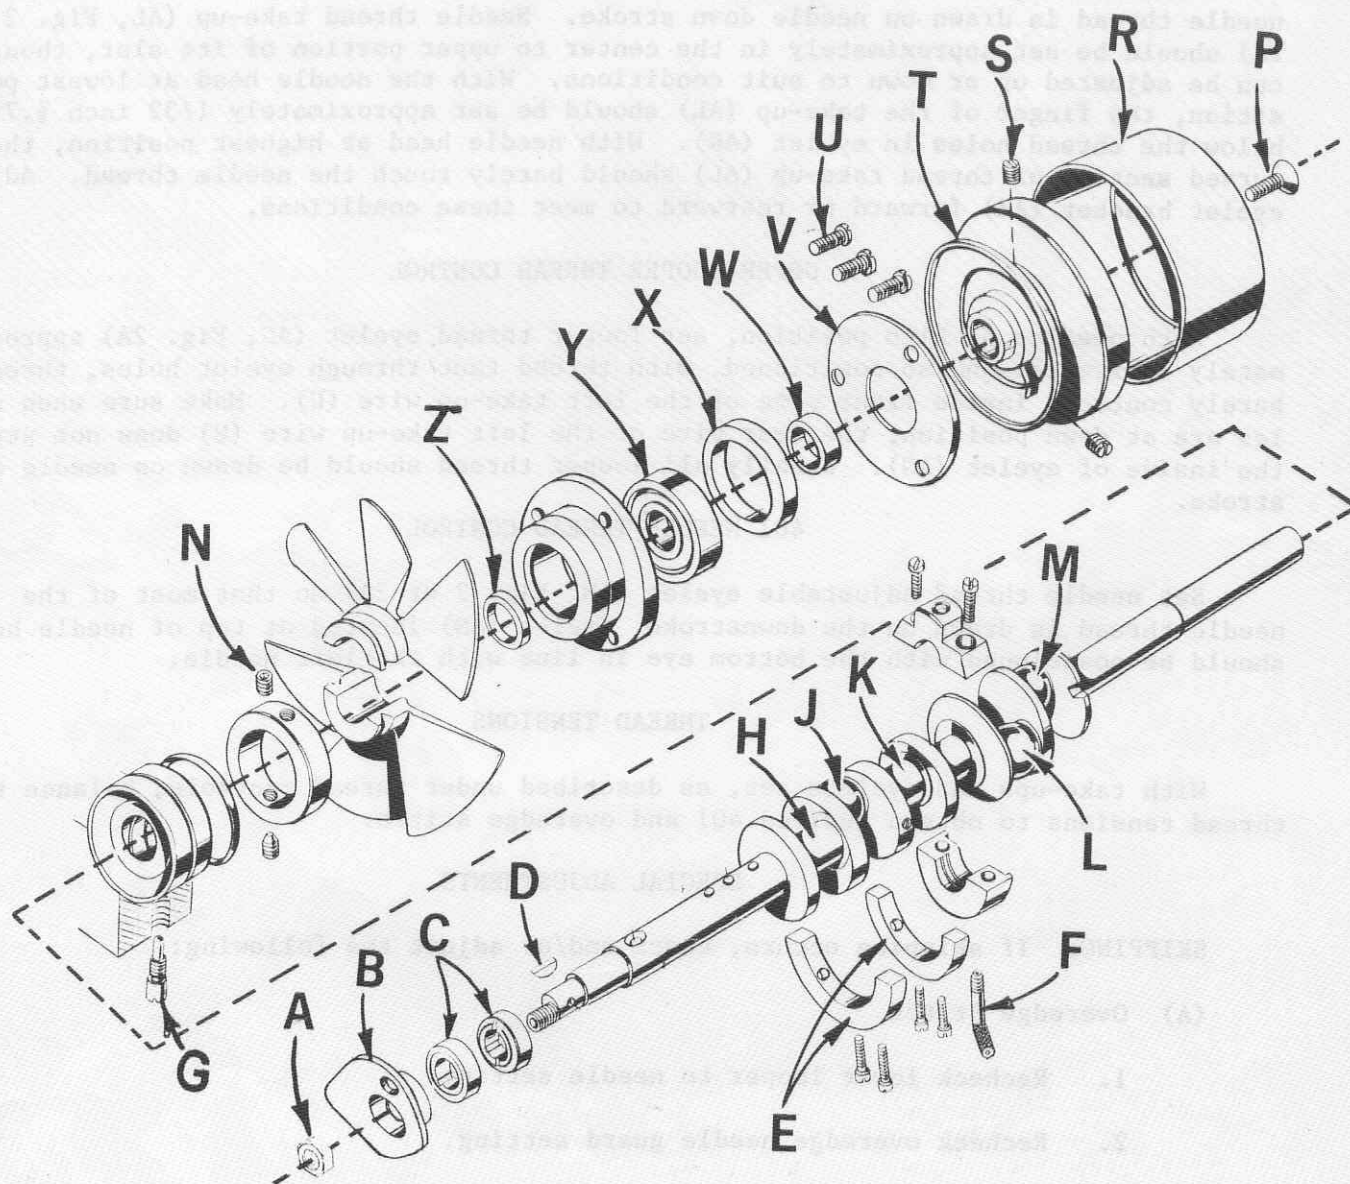
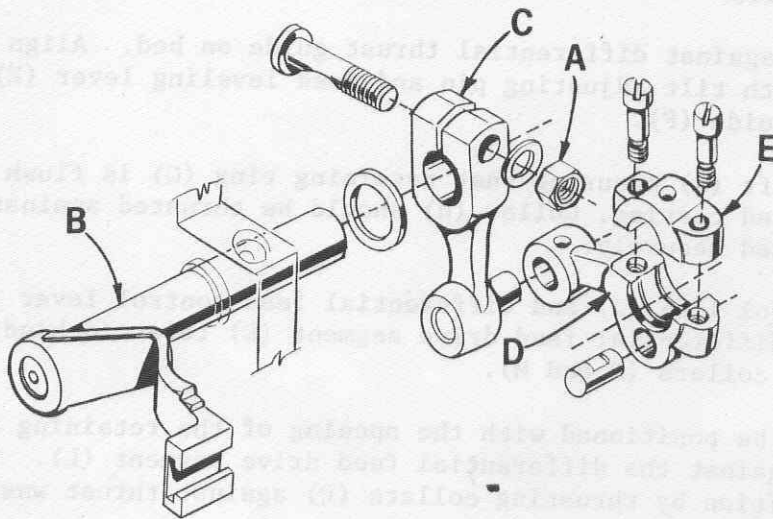

Fig. 20
Fig. 21
3. Remove nut (A, Fig. 20), 401 looper thread take-up (B) and eccentrics (C).
4. Remove key (D).
5. Remove two counterweights (E). Identify these counterweights so that they will be re-assembled in the proper places.
6. Remove oil tube (F) which holds crankshaft split bearing and oil pump, and the screw (G) which holds the inner right crankshaft bearing. They are accessible through bottom of bed casting.
14. Loosen clamp nut (A, Fig. 21) which holds the upper knife driving arm (B). Access to clamp nut is through top cover. Draw driving arm to the left until upper knife driving lever (C) and connecting rod (D) drop, allowing removal of bearing cap (E). This is at bearing point (K, Fig. 20) on crankshaft. Observe same precautions when reassembling cap as described in paragraph 7.
15. Loosen two screws (N) in fan collar; remove both halves of cooling fan.
16. Remove screw (P); take off pulley cap (R).
17. Loosen two screws (S); remove pulley (T).
18. Remove three screws (U); take off bearing retaining plate (V); also, spacer collars (W) and (X) may be removed at this time.